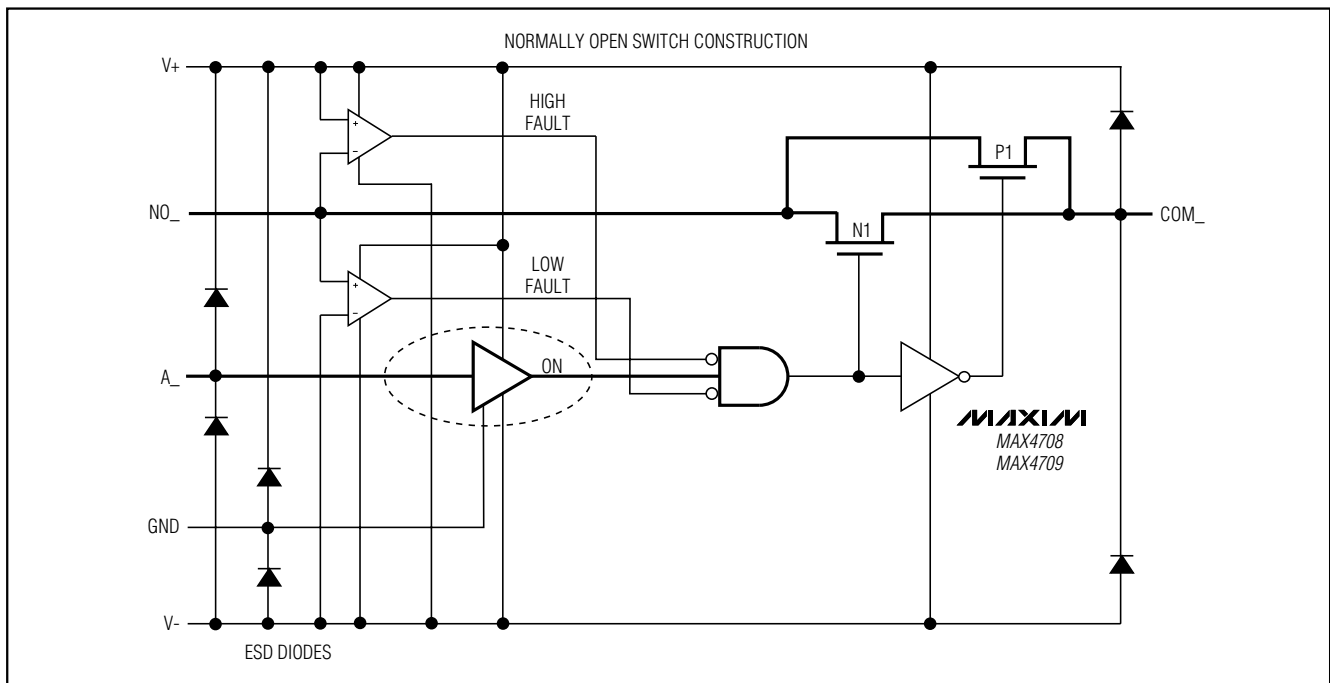

Figure 1. Functional Diagram
Figure 1 shows the internal construction of a single normally open (NO) switch, with the analog signal paths shown in bold. The parallel combination of N-channel FET N1 and P-channel FET P1 form the analog switch. During normal operation, these FETs are driven on and off simultaneously according to the control voltages on A+. During a fault condition, both FETs turn off.
Two comparators continuously compare the voltage on NO+ with  $V_+$  and  $V_-$  supply voltages. When the signal on NO+ ranges between  $V_+$  and  $V_-$ , the multiplexer operates normally, with FETs N1 and P1 turning on and off in response to the control signals on A+ (Figure 1). When the switch state is on, the parallel combination of N1 and P1 forms a low-value resistor between NO+ and COM+ so that signals pass equally well in either direction. When the switch state is off, both NO+ and COM+ are high-impedance inputs.